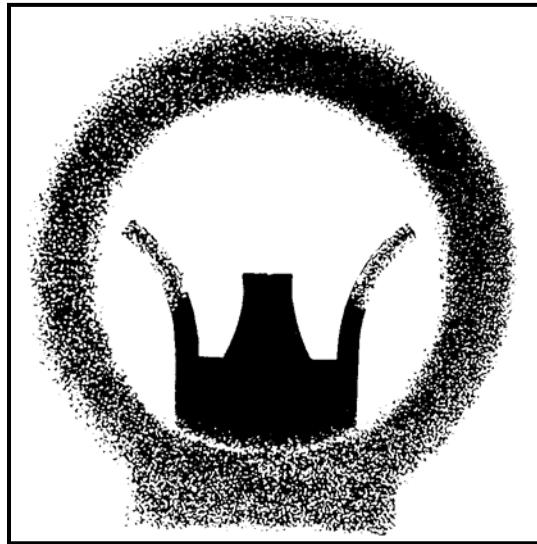

Figure 4-17. Correct sight alignment.
(1) ***Rifle Sight Alignment.*** Alignment of the rifle with the target is critical. It involves placing the tip of the front sight post in the center of the rear sight aperture (Figure 4-17). Any alignment error between the front and rear sights repeats itself for every 1/2 meter the bullet travels. For example, at the 25-meter line, any error in rifle alignment is multiplied 50 times. If the bullet is misaligned by 1/10 inch, it causes a target at 300 meters to be missed by 5 feet.